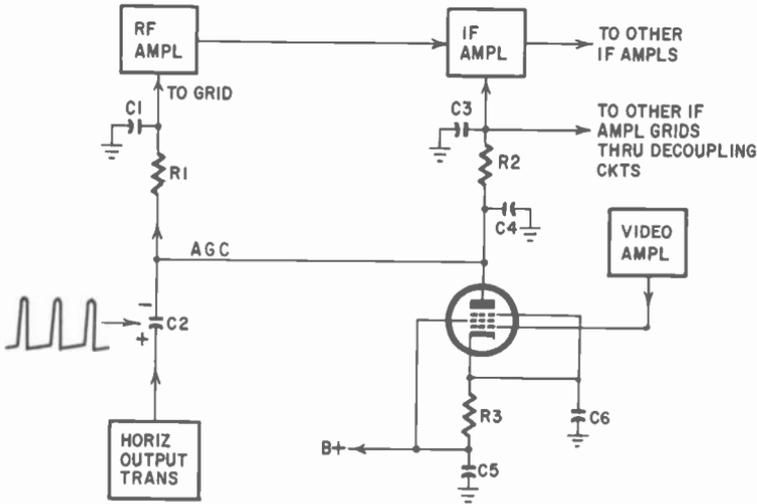

Fig. 709. Keyed-agc circuit. Blocks are used to indicate associated stages.
The keyed *agc* circuit of Fig. 709 makes use of a pentode keyer tube which receives two inputs: (1) A video signal is fed to the control grid from the video amplifier. This is the signal we sample to get our signal information; (2) Sharp positive flyback pulses are fed to the plate from the horizontal output transformer.
A closer look at Fig. 709 shows there is no B-plus on the plate of the keyer tube. The only source of positive voltage is the horizontal
The circuit of Fig. 709 has an *agc* feed to the rf amplifier stage, with R1 and C1 serving as decoupler and filter. The *agc* line that feeds the if stages is filtered and decoupled by C3, R2 and C4. A positive voltage, usually in the 100 to 300-volt range, is fed to the keyer cathode. This voltage establishes the grid bias voltage when the tube conducts. Although the video signal to the grid is positive, the cathode is *more positive*. Therefore, the grid is biased negatively with respect to the cathode.